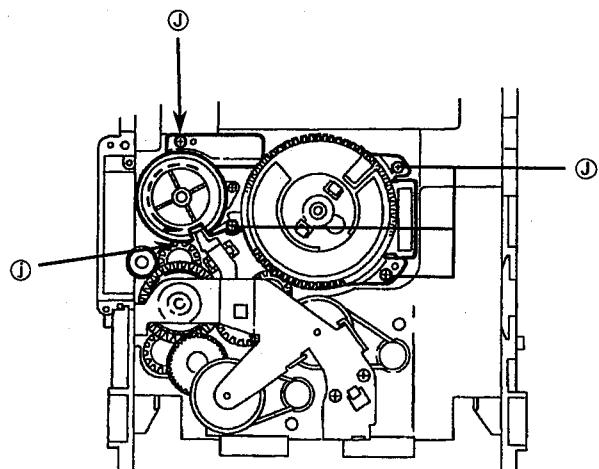

Fig. 43
4. Rotate the Cam gear L so that the select gear's ⑥ is positioned as shown in Fig. 43.
5. Remove 4 screws ⑦ securing the cam unit which includes the cam gear L and Cam R1, R2 ass'y. (See Fig 43.)